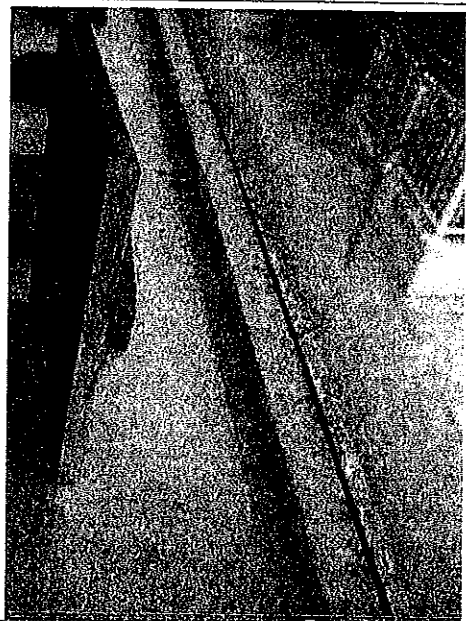

Figure 2.2.1.1. - Condensation and fungal growth at Townhouse 18.
1. Condensation at windows was reported at many suites, primarily at the townhouses (Fig. 2.2.1.1). The situation was reportedly worse in colder weather and with the windows closed. Ventilation, especially at the townhouses, may not be adequate for the occupants' needs. **Significance:** Damage to interior finishes, fungal growth, and a nuisance to occupants. Increased air circulation will reduce condensation and the likelihood of fungal growth. Periodically opening windows, using bathroom and kitchen fans, and leaving open drapes and blinds, may improve the situation. The original design team should review the situation.